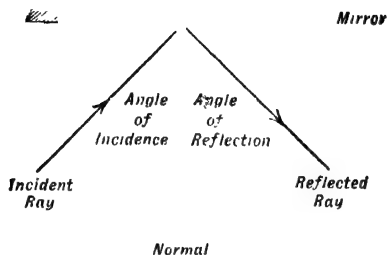

FIG. 79. THE ANGLE OF INCIDENCE OF A RAY OF LIGHT IS EQUAL TO THE ANGLE OF REFLECTION.
i.e. the angles of incidence and reflection (Fig. 79). Tabulate the results in two columns :